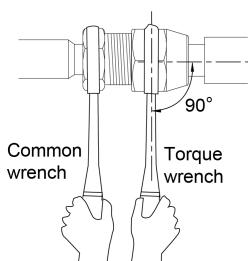

Fig. 14
- (3) Use torque wrench to twist on the flared nut tightly until the wrench gives out a click sound (Hold the handle of wrench and make it at right angle to the pipe. as in Fig.14).
- (4) Use sponge to wrap the un-insulated connection pipe and joint. Then tie the sponge tightly with plastic tape.
- (5) Connection pipe should be supported by a bearer rather than the unit.
- (6) The bending angle of piping should not be too small; otherwise the piping might have cracks. Please use a pipe bender to bend the pipe.
- (7) When connecting IDU with connection pipe, do not pull the big and small joints of IDU with force in case the capillary tube or other tubes have cracks and cause leakage.